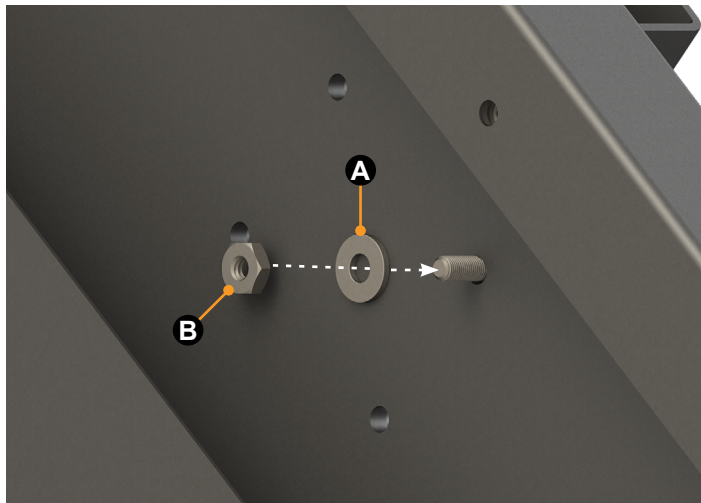

Fig.6
18. Insert one #10 flat washer and a #10 - 24 nut on the backside of the bolt and tighten (Fig.6).